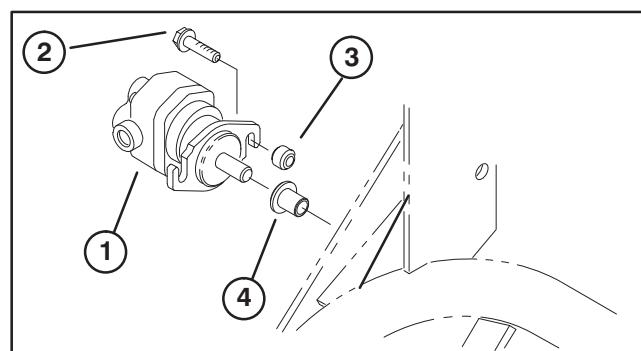

Figure 10
C. Using reel motor flange as template and positioning as shown in figure 10, locate, mark and drill a .344" dia. hole on scribed line.